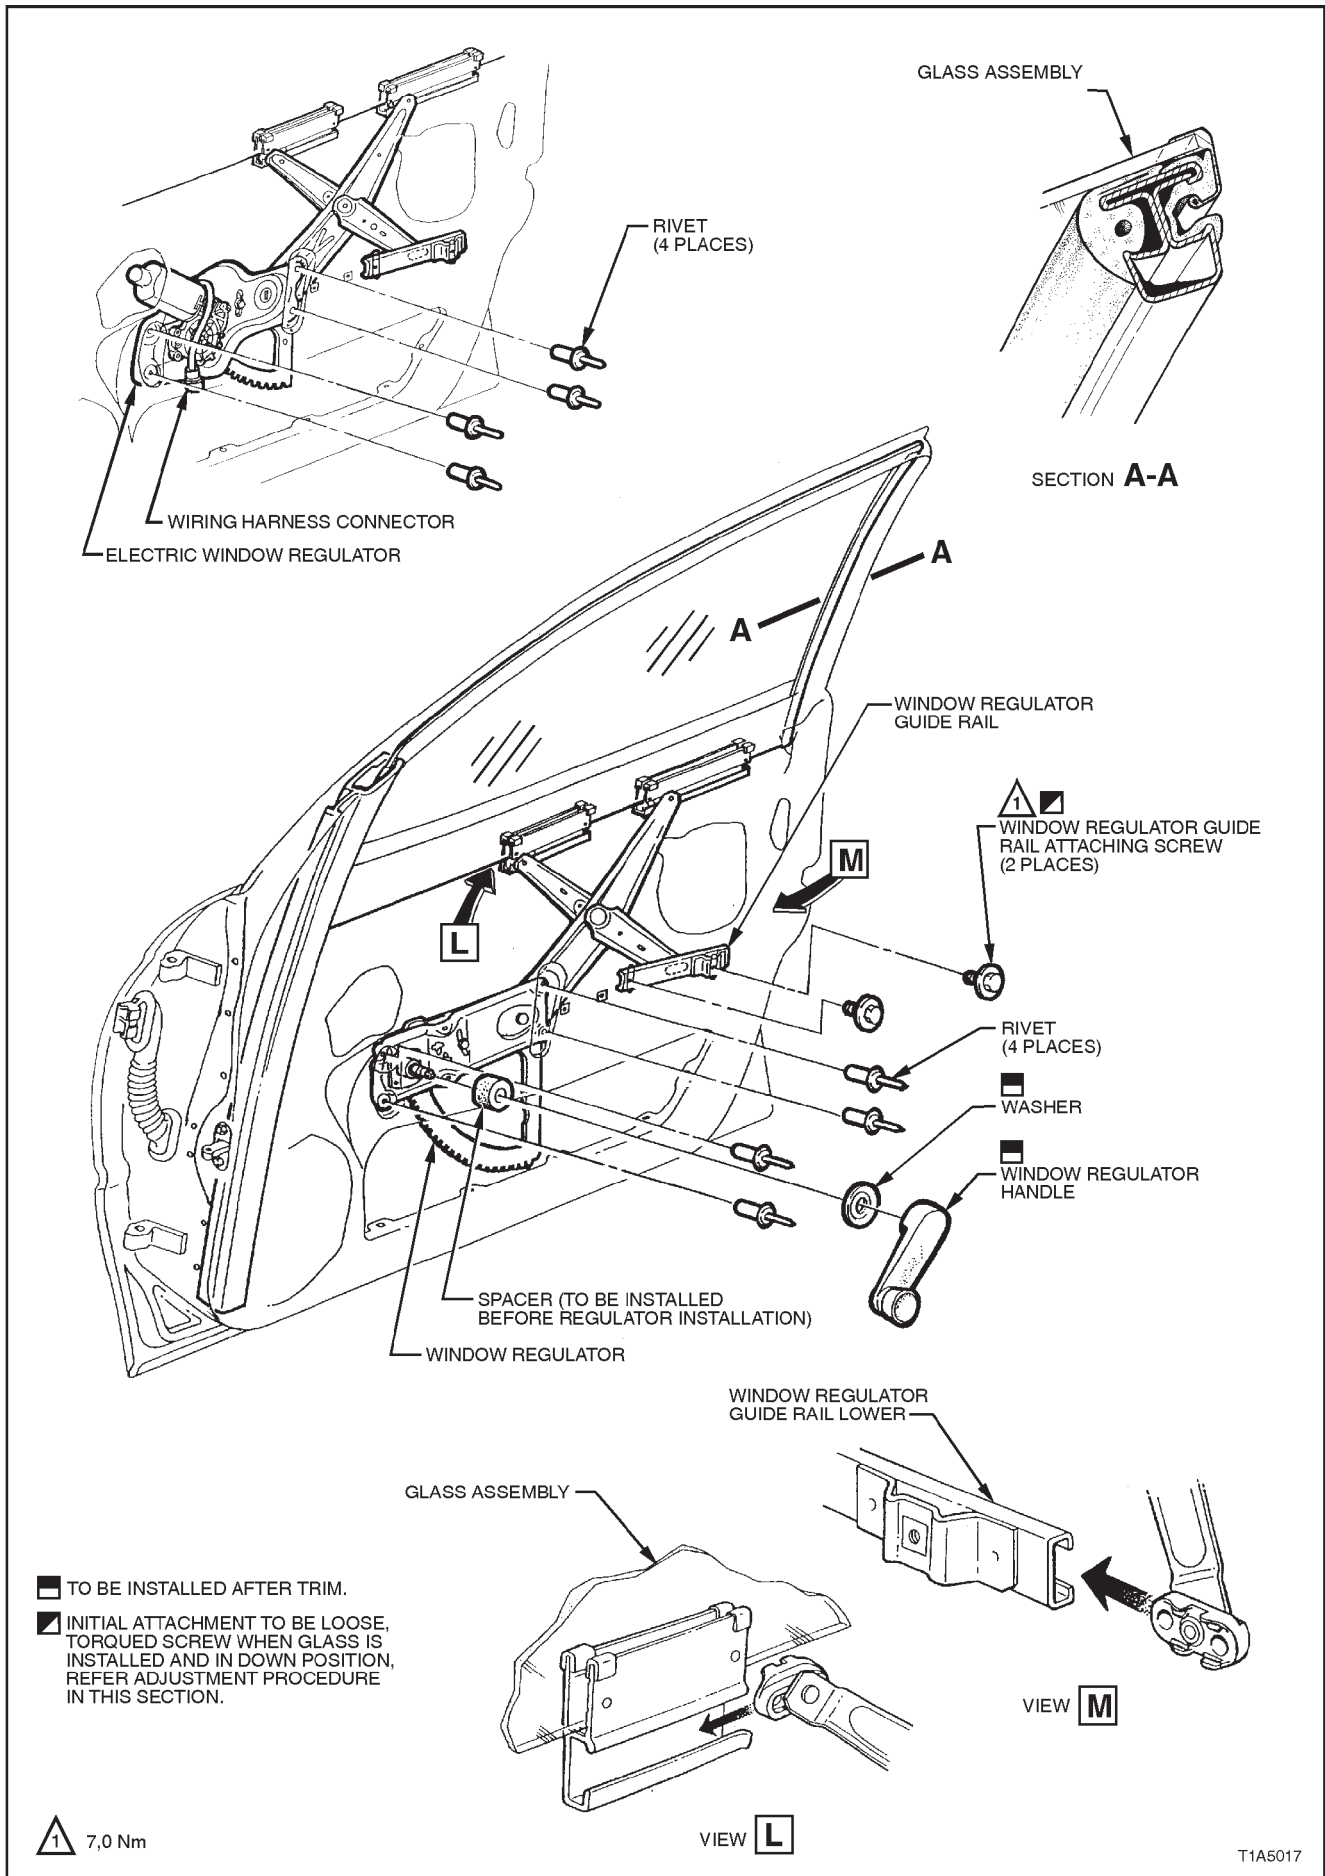

Figure 1A5-27
6. Ensure the door remote control handle assembly and remote control rod are engaged before final fitment, refer to Fig. 1A5-22 in this Section.